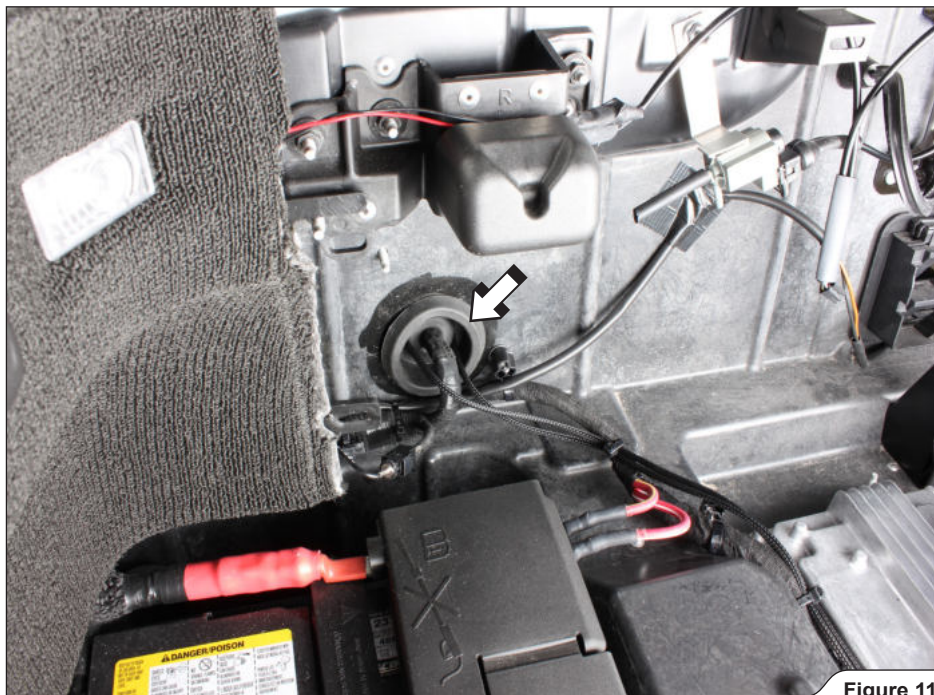

Figure 11
- Carefully puncture/cut the marked rubber seal and lead the two actuators' harnesses through, as shown (Figure 11, 12).